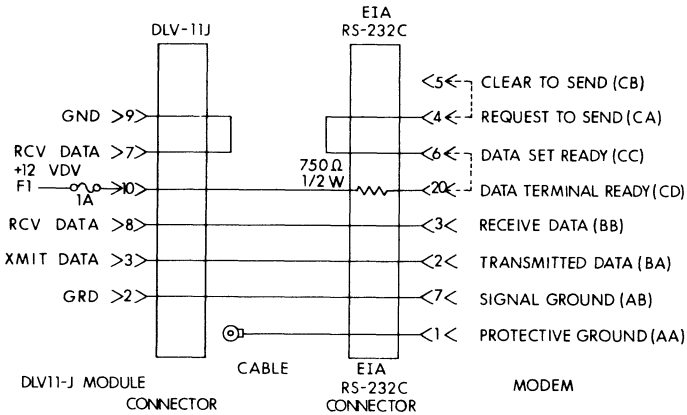

Figure 20-10 BC21B-05 Modem Cable
2. The receivers on the MXV11-A have differential inputs. Therefore, when designing an RS-232C or RS-423 cable, RECEIVE DATA (pin 7 on the 2 × 5 pin AMP connector) must be tied to signal ground (pins 2, 5, or 9) in order to maintain proper EIA levels. (See Figure 20-10)